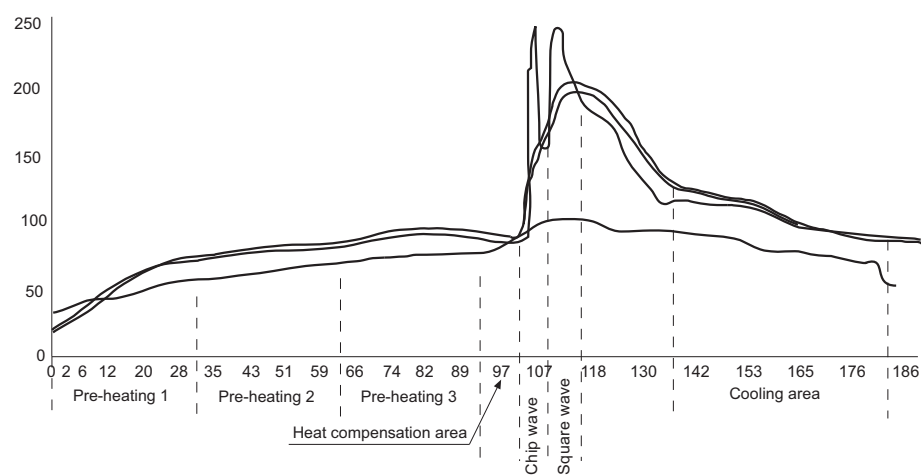

Figure 2
1.2.2 When choose the relay with PCB termination, the recommended welding temperature range and duration is 240°C to 260°C, 2s to 5s; Please do not use the reflow welding method, if the reflow is really required, please contact our technicals; the normal recommended wave soldering temperature is 250°C within 2s; the below chart is the wave soldering temperature distribution chart we recommended for your reference. Seen in Figure 2.